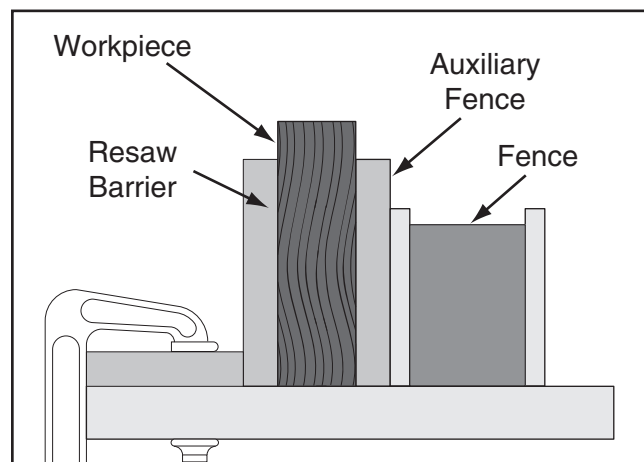

Figure 73. Ideal resaw workpiece setup.
5. Place workpiece against auxiliary fence and slide resaw barrier against workpiece, as shown in **Figure 73**. Now clamp resaw barrier to top of table saw at both ends.